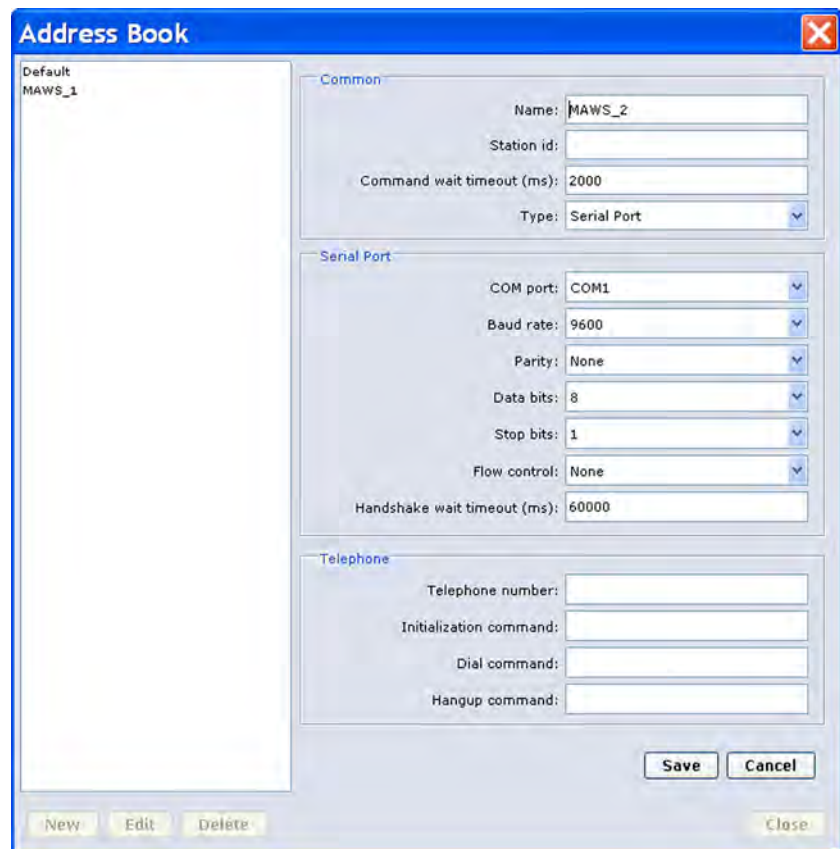

Figure 23 Creating Serial Line Address Book Entry
3. From the **Type** list, select the type of the connection; that is, select **Serial Port**. The fields for selecting a serial port connection, shown in Figure 23 on page 47, are displayed.